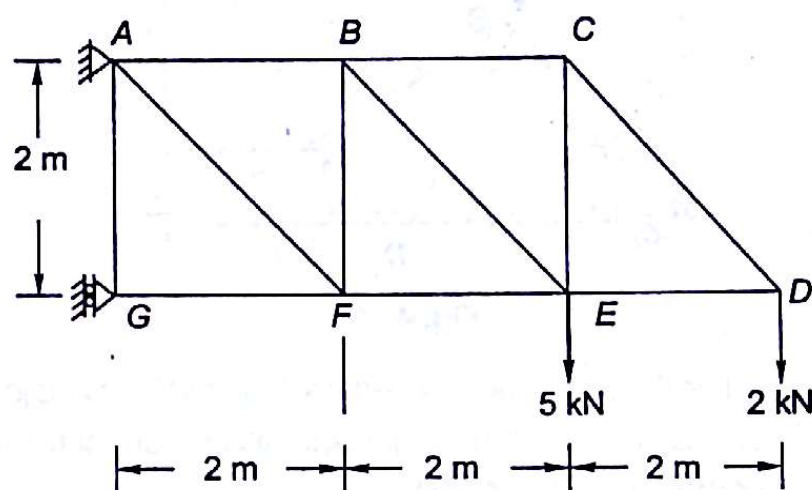

Fig. 4.28
- 4.3 A cantilever truss $ABCDEFG$ is hinged at end A and roller supported at G as shown in Fig. 4.28. There are loads of 2 kN at D and 5 kN at E . By method of sections determine axial forces in members AB , BF and EF .